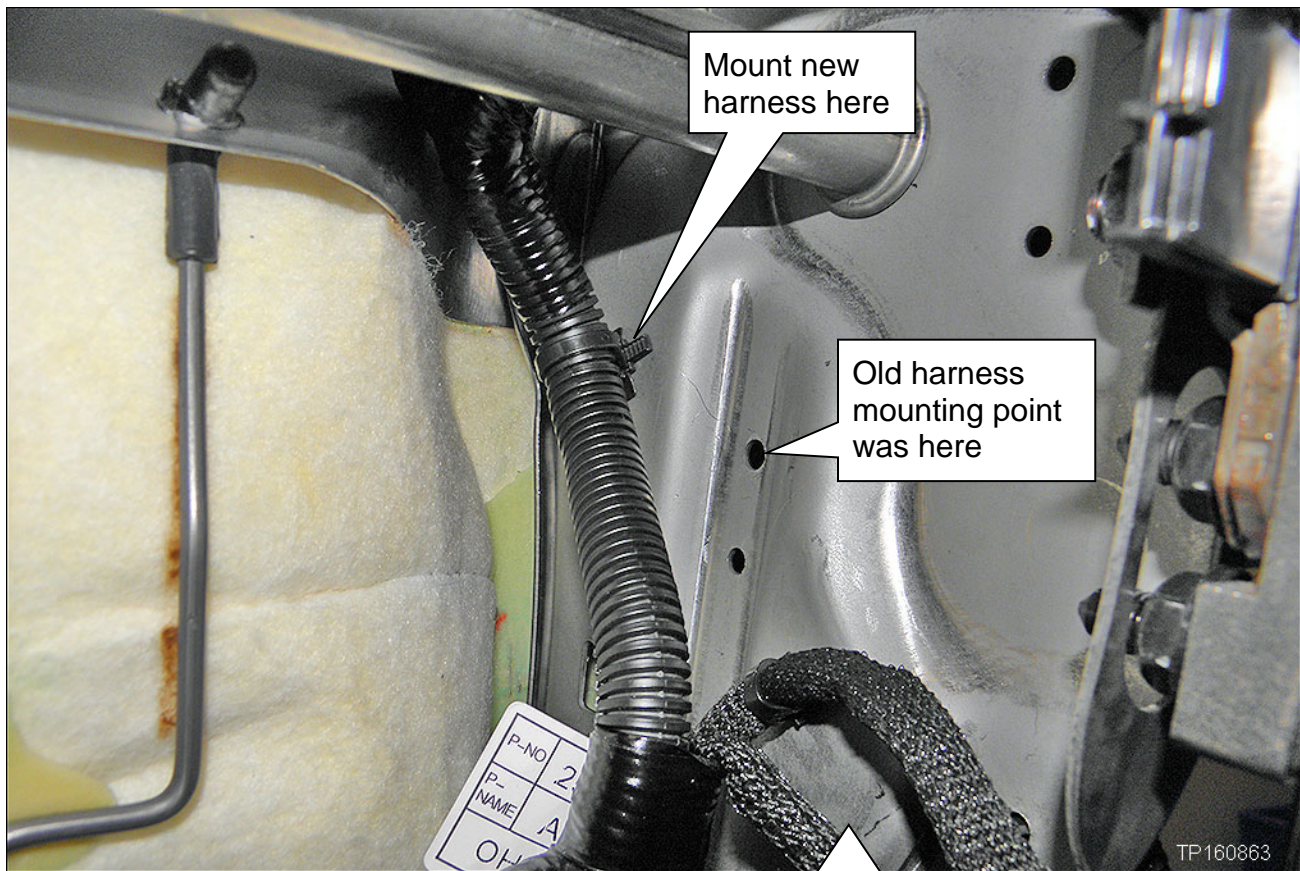

Figure 5
- **IMPORTANT:** There is one mounting clip that will need to be placed in a **different** location; it is shown in Figures 5 and 6 on page 8.